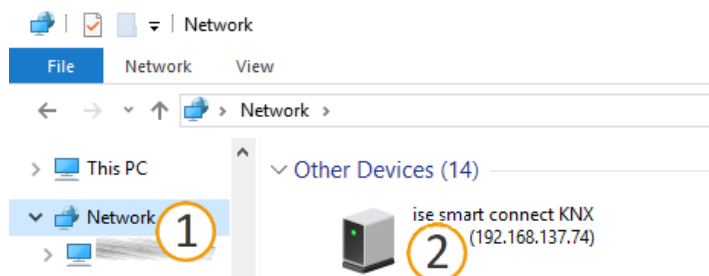

Figure 21: Accessing the device website via the network environment
- Alternatively, select the device in the network environment category <<Other devices>> (see figure 21, item 1): Double click on the device icon (see figure 21, item 2).